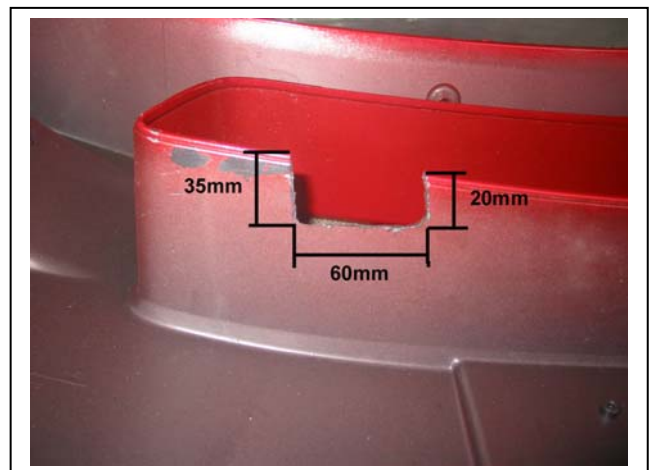

Figure 6 – Drivers side opening trim
19. Trim rear of air vent section of bumper cover to fit over steel mounting brackets. Refer to **figures 6 and 7** for details.